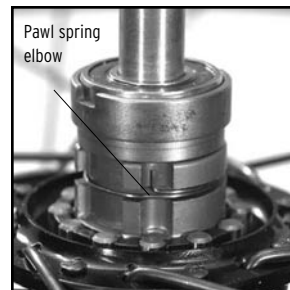

Fig. 9G
1. Place the pawl spring over the axle and install the spring into the retainer body with the elbow pointing up (Fig. 9G).